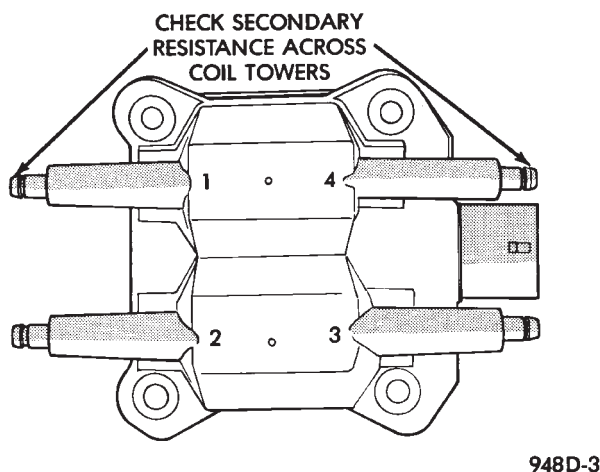

Fig. 25 Checking Ignition Coil Secondary Resistance
(4) Remove ignition cables from the secondary towers of the coil. Measure the secondary resistance of the coil between the towers of each individual coil (Fig. 25). Secondary resistance should be 7,000 to 15,800 ohms. Replace the coil if resistance is not within tolerance.